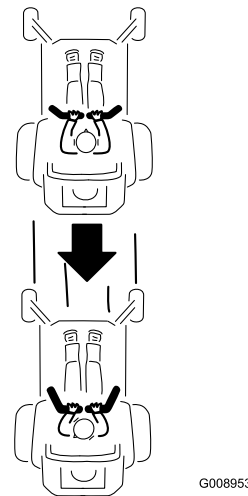

Figure 19
2. To go backward, look behind you and down as you slowly pull the motion control levers rearward (Figure 19).
To go straight, apply equal pressure to both motion control levers (Figure 19).